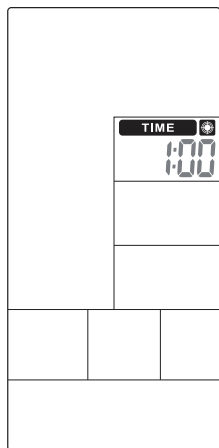

FIGURE 39
- Press UP / DOWN (KEY 10 or 11) to adjust the value (Figure 39) then press ENTER (KEY 19) to confirm.